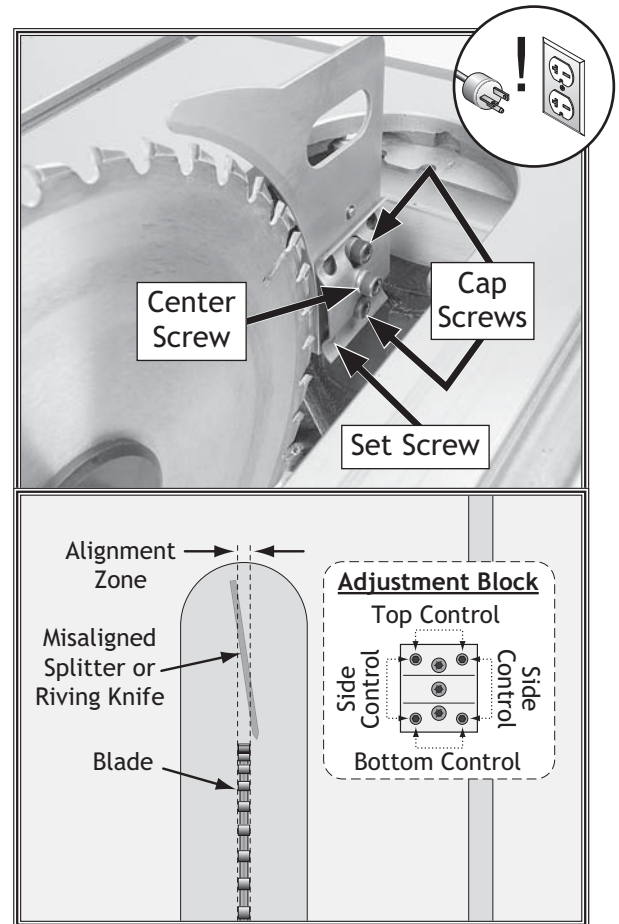

Figure 102. Set screws for adjusting spreader/ripping knife position.
3. Adjust each pair of set screws that controls the direction required to move the mounting block so the ripping knife can be aligned with the blade (see **Figure 102**). Make sure to move both screws in even increments.